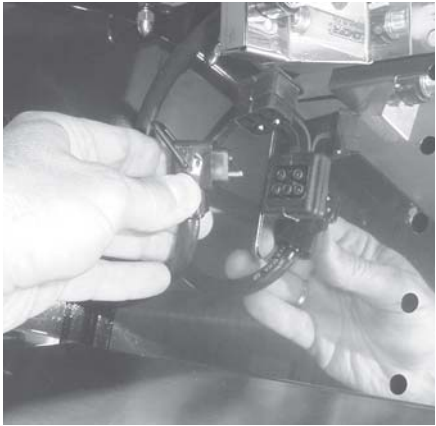

Figure 2-2
- c. Line up the prongs on the plug with the holes in the receptacle, and firmly push the plugs into the receptacles. Figure 2-2.
- d. Line up the prongs on the plug with the holes in the receptacle, and firmly push the plugs into the receptacles. Figure 2-2.